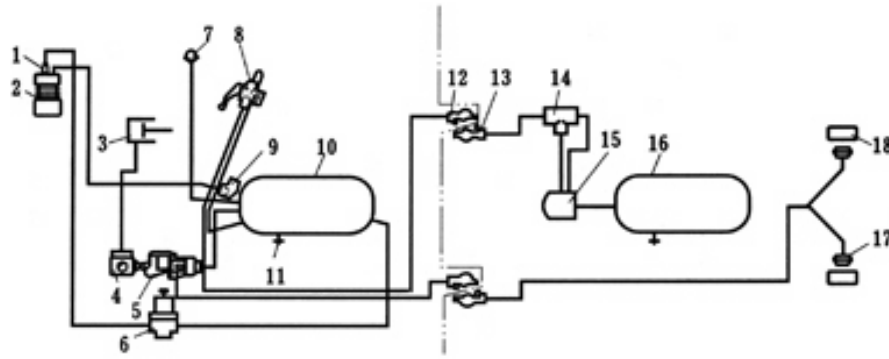

Fig.4-44 Trailer braking system
In Fig.4-44, after tractor is started, compressed air from air compressor (2) goes through retaining valve and then into air storage cylinder to build up a working air pressure (not smaller than 0.39MPa). When air pressure reaches 0.78MPa, pressure adjusting valve (6) is opened. The compressed air in the cylinder passes valve (6), pushes unloading valve (1), and the air compressor runs without loads.